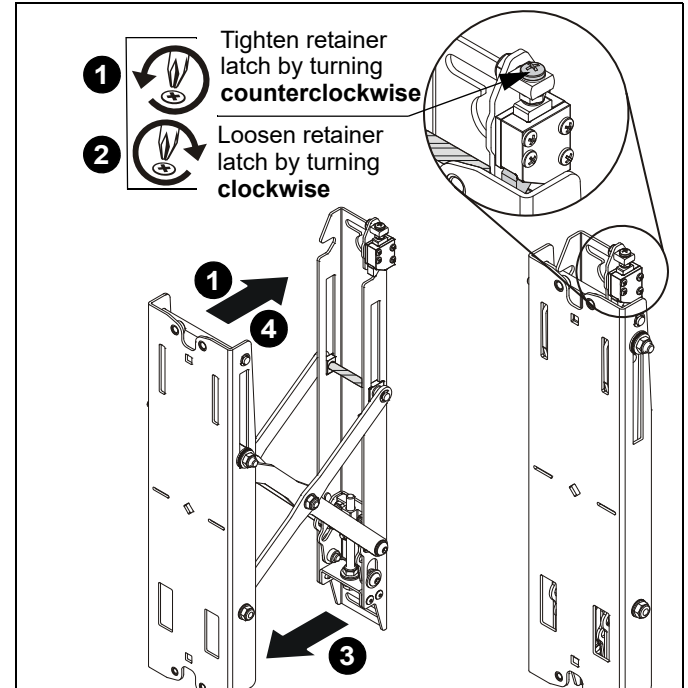

Figure 12
1. Close the FCAXV1U brackets and tighten the retainer latch (turn **counterclockwise**) to hold the brackets in the retracted position. (See Figure 12)
2. Loosen the retainer latch by turning screw **clockwise**. (See Figure 12)